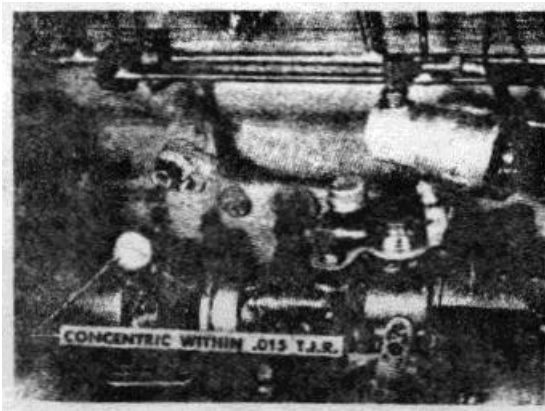

Figure 2-7. Checking coupling concentricity
5. Check the concentricity of the couplings, they must be concentric within .015 inch total indicated run-out. This can be regulated by adding shims between the fuel pump and bracket. Fig. 2-7.